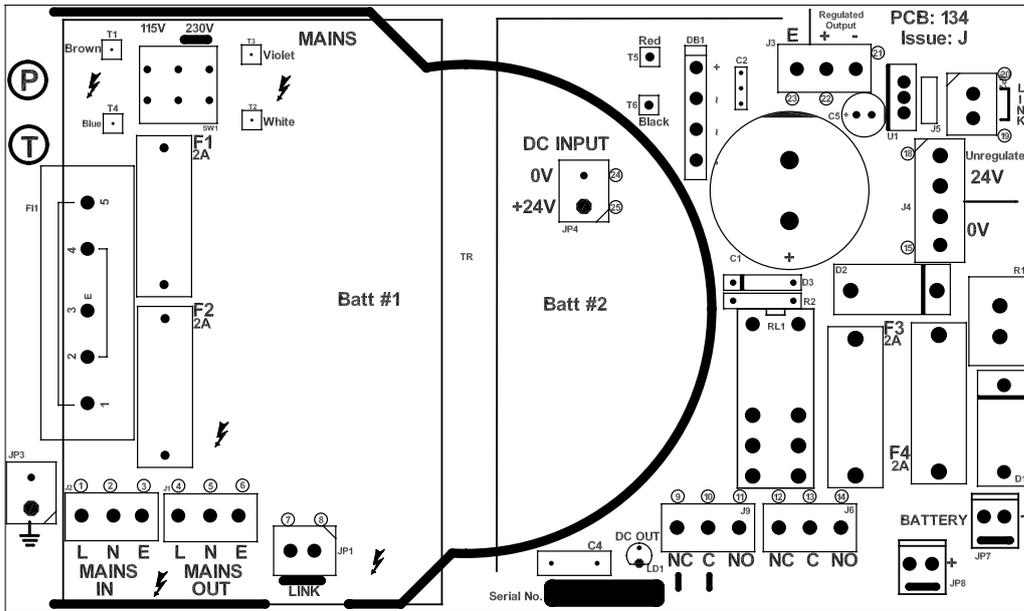

Fig 1B
- 3 Power supply see fig. 1B page 32